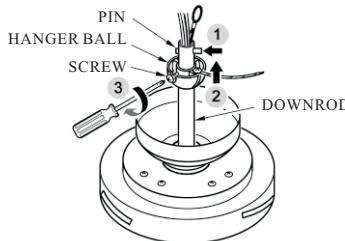

FIG.4
4. Tighten the pin and screw previously removed and loosened in step 1.(see fig.4)